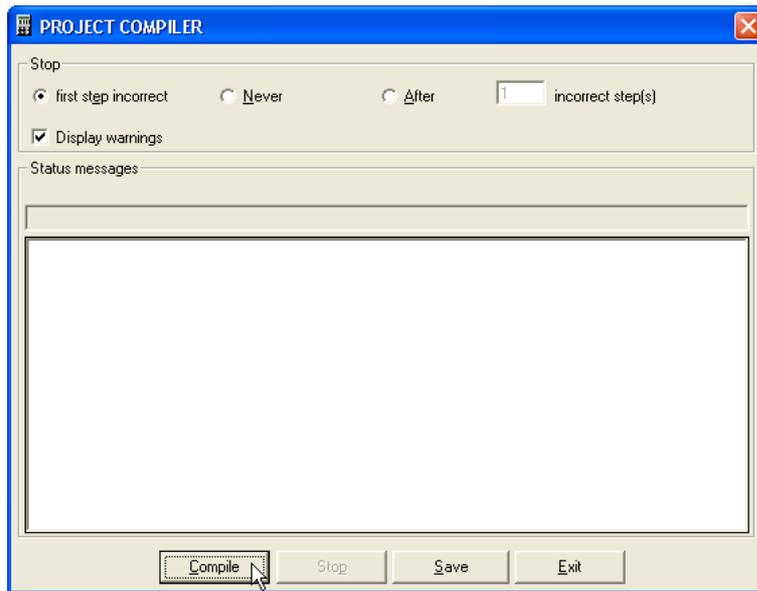

Fig. 35.
3.31 On the *PROJECT COMPILER* window, click on *Compile* as shown in Fig. 35.